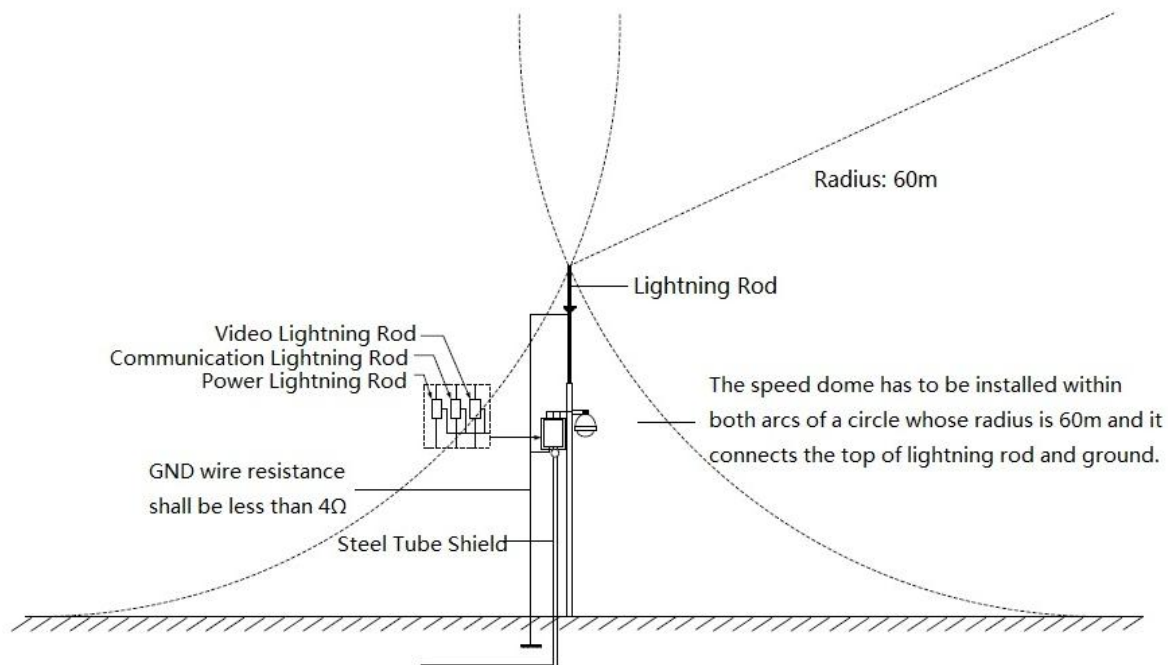

Figure 6-1
- System shall adopt equal-potential wiring. The earth device shall meet anti-jamming and at the same time conforms to your local electrical safety code. The earth device shall not short circuit to N (neutral) line of high voltage power grid or mixed with other wires. When connect the system to the earth alone, the earth resistance shall not be more than 4Ω and earth cable cross-sectional area shall be below 25 mm^2 . See Figure 6-1.